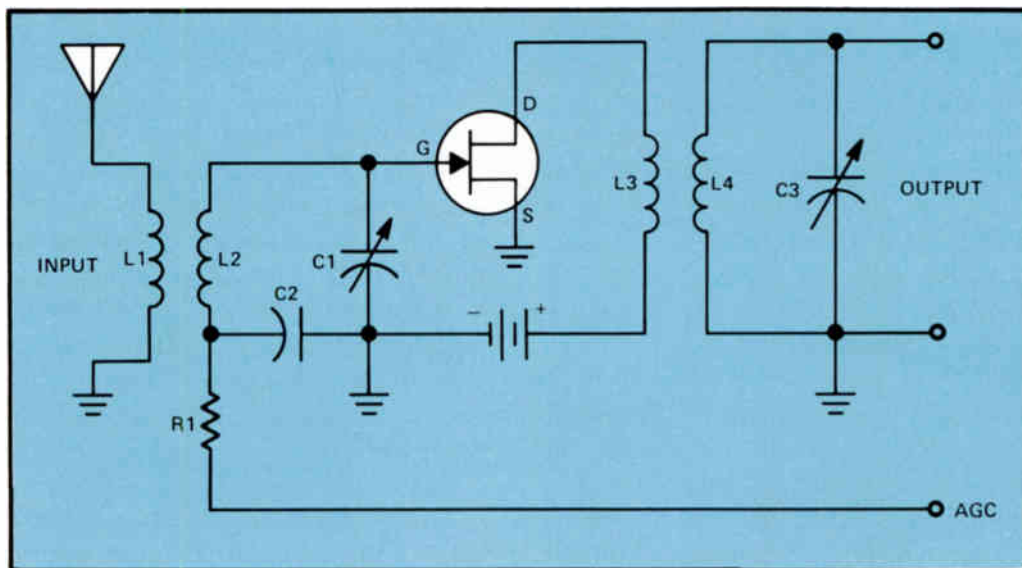
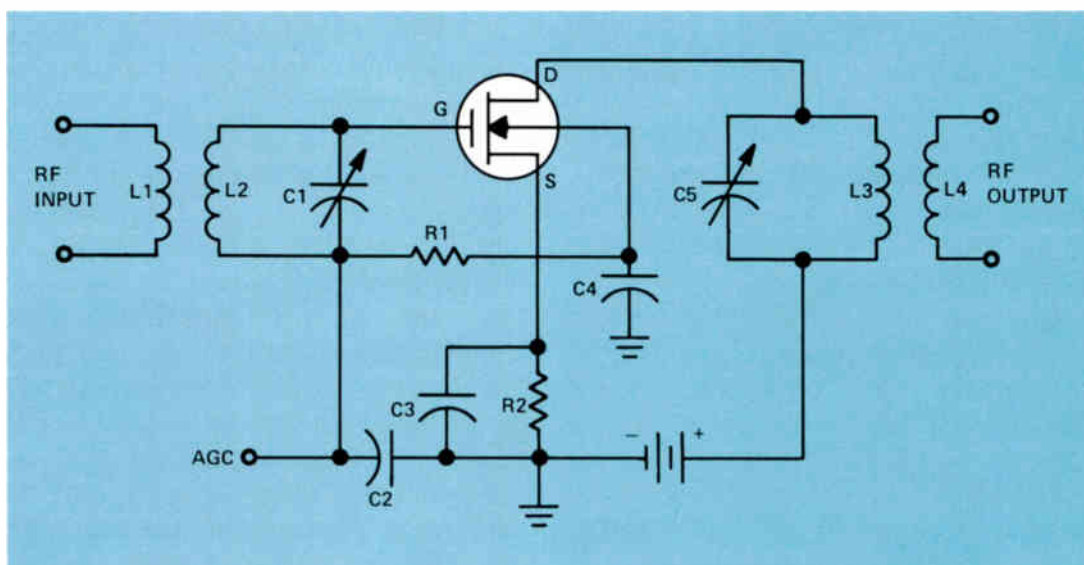

Figure 24. An rf amplifier using a junction field-effect transistor.
Figure 25. An rf amplifier using an insulated-gate field-effect transistor.
Figure 24 is a schematic diagram of an rf amplifier using a junction field-effect transistor. Notice that the signal is picked up by the antenna and fed to L1, which is inductively coupled to L2. L2 and C1 form a series-resonant circuit. C1 is adjusted so that the combination is resonant at the frequency of the desired station. The capacitance of C2 is so large that as far as the rf is concerned, it can be ignored. It is used to block the agc (automatic gain control) voltage from ground so that it will not be shorted out. The agc voltage is a negative voltage that is applied to the gate of the transistor. This voltage will vary to control the gain of the transistor, becoming more negative on strong signals and less negative on weak signals.
In the circuit shown in Fig.24, there will be some reverse current flow across the junction of the transistor. This will have the effect of lowering the input resistance of the transistor, which in turn will lower the Q of the resonant circuit. This can be overcome by using an insulated-gate field-effect transistor in the circuit such as shown in Fig.25. The circuit here shows an n-channel depletion-type, insulated-gate, field-effect transistor.
- 23 What do the letters agc in the circuit shown in Fig.24 stand for?